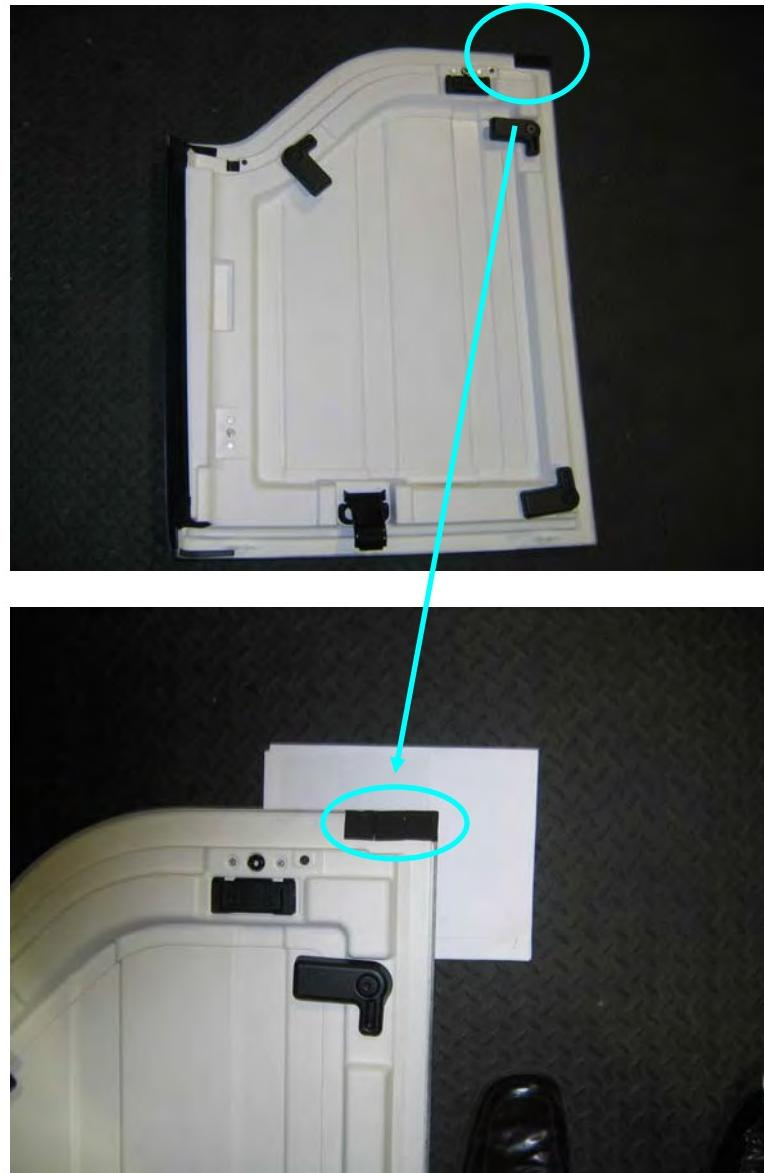

Figure 28
- Add 30 X 75 mm **Black Foam** from Kit (68026937AB) to cover butyl (Figure 28)